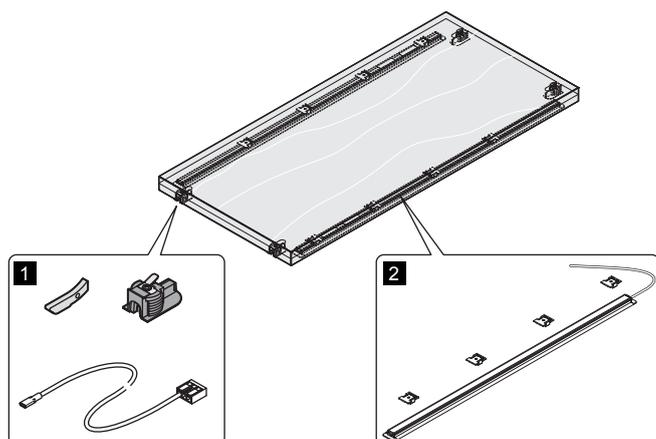

Fig. 8: Components for wooden shelves
- Power set with current collectors, shelf supports and cables (Fig. 8/1). See also „Power set“.
- LED lamp (Fig. 8/2). See also „LED lamps“.